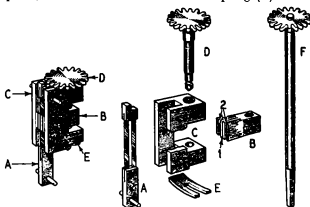

FIG. 299.—BROCOT PENDULUM SUSPENSION.
Next examine the suspension spring. It is usually a twin spring between brass cheeks (see Fig. 299 (A)). Replace the spring if it is buckled or broken. If buckled, the pendulum will oscillate and will not keep time. The spring must also fit closely into the slot or "chops" (B) in the block of the "Brocot", as the whole unit is called. This is most important as any movement of the suspension in the block will result in loss of impulse, and the clock may stop. This block is fitted closely into another block (C), which is screwed to the pallet or back cock and is the main frame of the Brocot.